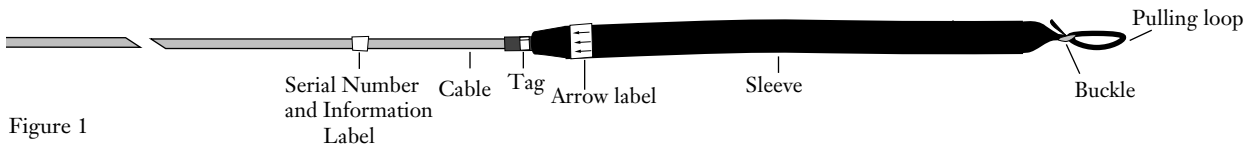

Figure 1
1.1 This procedure describes how to access the connectors inside a Corning Cable Systems Plug & Play systems (PNP) pulling sleeve. The reuse of the sleeve is also described and illustrated. Figure 1 illustrates a PNP trunk cable pulling sleeve.